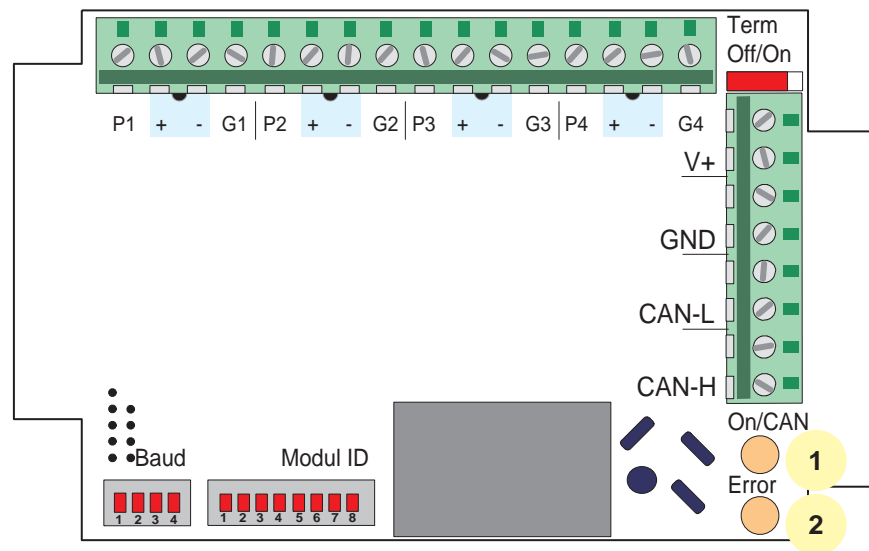

Fig. 16: Position of LEDs on  $\mu$ CAN.4.ti-BOX
Figure 16 shows the position of LEDs marked by (1) and (2).